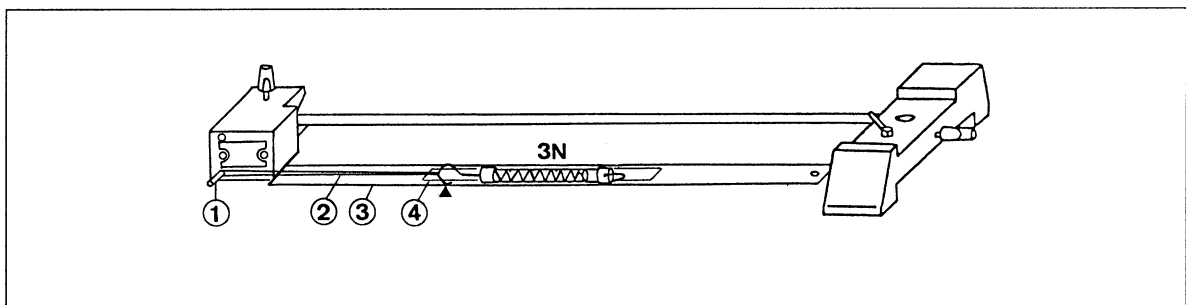

Fig. 1 Setup for experiment to investigate elongation of a rubber ring
1. Set up the experimental apparatus as shown in fig. 1.
3. Fix two paper strips 25 cm long (4) to the leaf spring (3), parallel to one another ► Fig. 1.
5. Mark the zero point on the paper strip nearest to you ► Arrow in fig. 1.